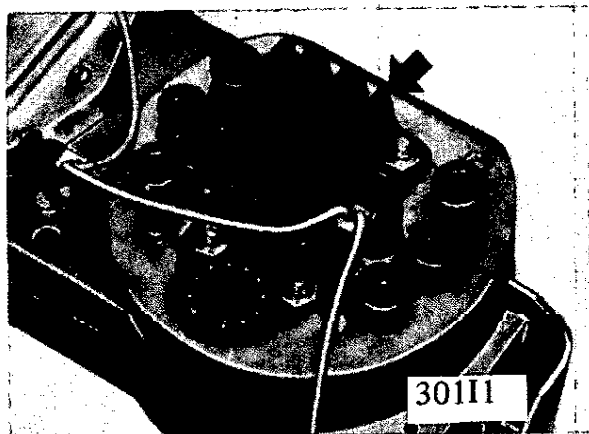

Figure 1I-1 -Voltage Stabilizer
See Figure 1I-1.
2. Remove six screws shown in Figure 1I-2 and remove both instrument cluster lens.
3. Remove three speedometer attaching screws. See Figure 1I-3.
2. Remove six screws and remove both instrument cluster lens, as shown in Figure 1I-2.
3. Remove three screws, as shown in Figure 1I-4, and remove clock or tachometer.